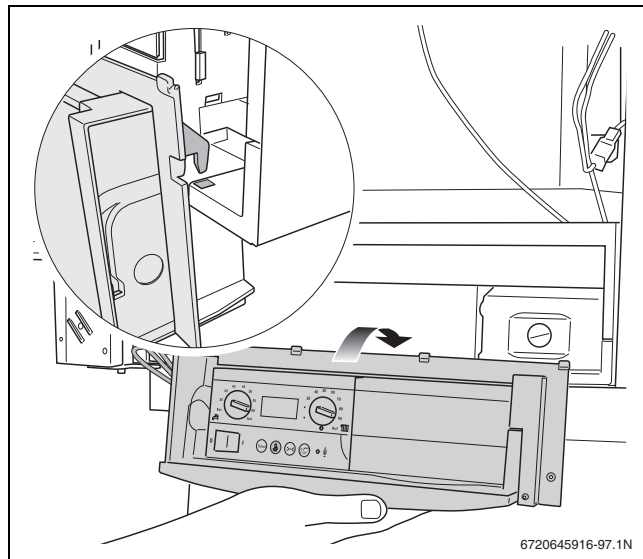

Fig. 99 Hanging the control panel from the boiler frame
- Use the 2 hooks to hang the control panel from the boiler (→ fig. 99).